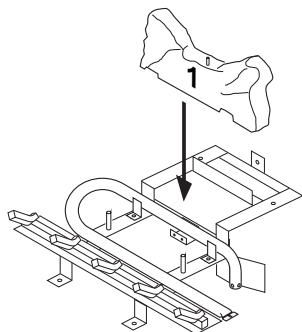

Figure 40 - Installing Log No. 1
1. Place log #1 (rear log) on top of grate. Make sure the notches in the bottom of the log fit over the grate (see Figure 40).